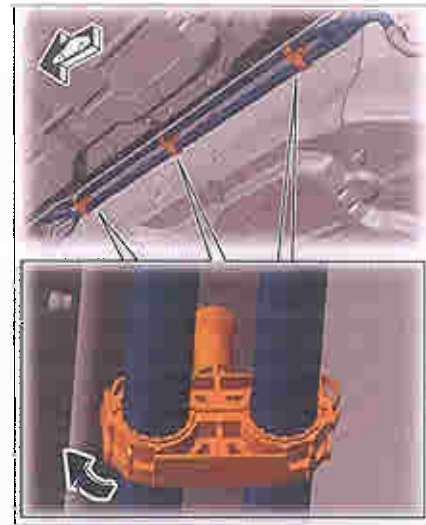

Figure 14
- 4.2 Press in the retaining bar until it locks securely ⇒ *Figure 14 -arrow-*. Then press it in again using a screwdriver if necessary.